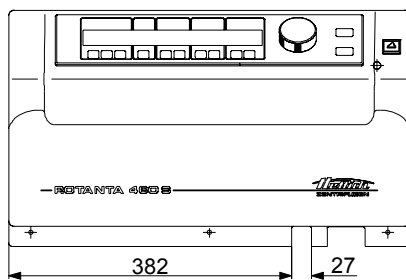
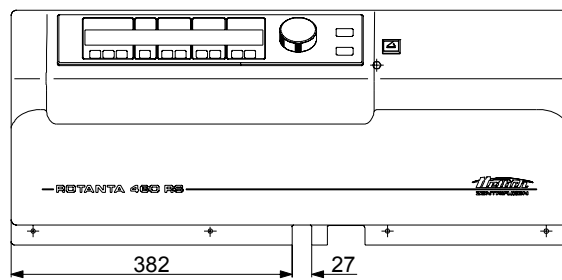

Fig. 23 ROTANTA 460 S
Fig. 24 ROTANTA 460 RS
- Saw out of the front panel the opening for the key-operated switch according to Fig. 23 and Fig. 24 and afterwards break the edges.